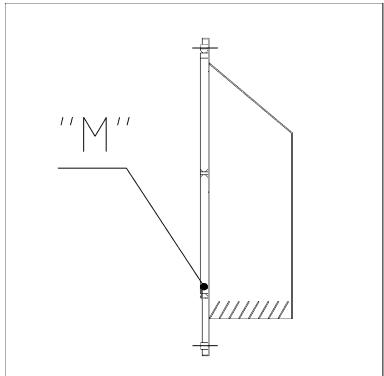

Fig. 1
1. Make sure cover-ring "DK" (0065.0.045) is pushed on (Fig. 1).
8. Push over terminal ring "SR" so that smooth surface is visible (Fig. 1).